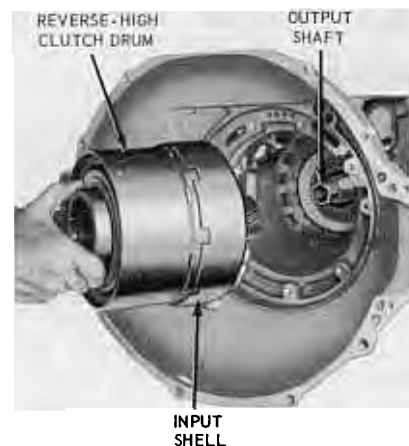

FIG. 28—Removing or Installing Forward Part of Gear Train
12. Remove the forward part of the gear train as an assembly as shown in Fig. 28.